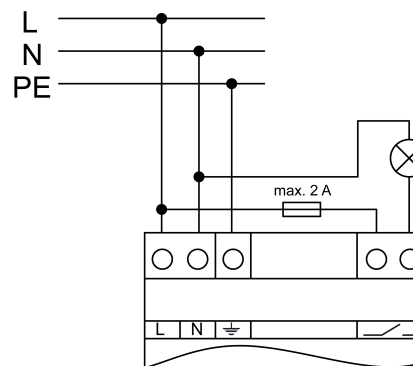

Figure 4: Application example – signal lamp for optical operating display
- o Connect the signalling device according to the connection example (figure 4).